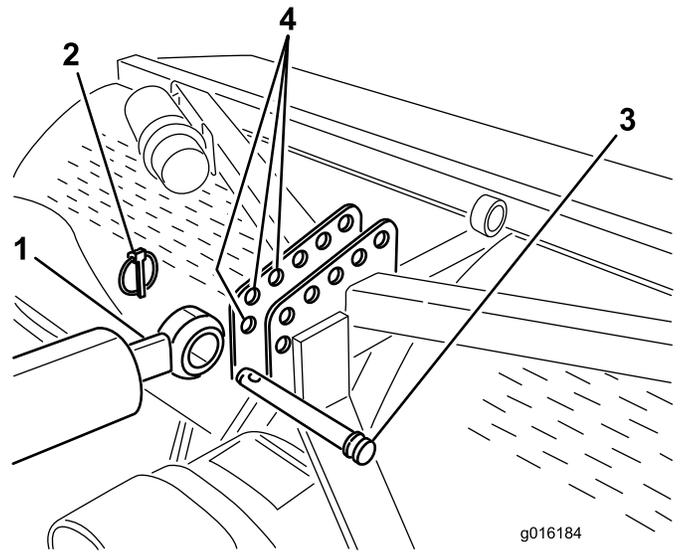
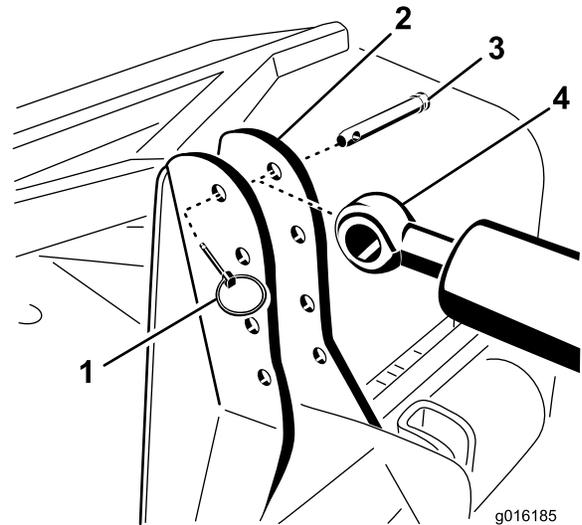
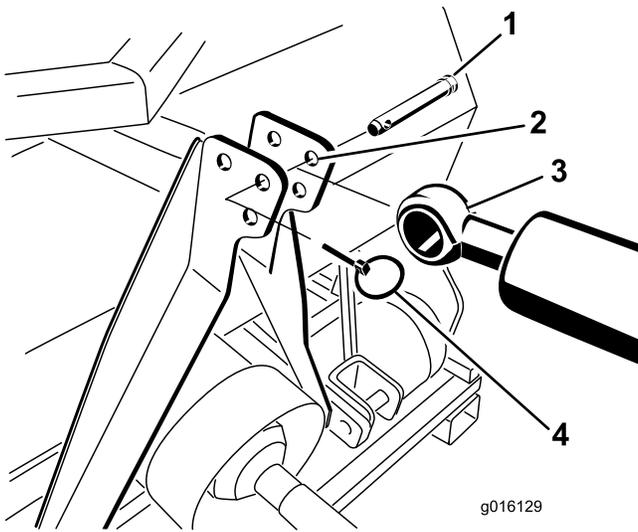

Figure 6
Figure 7
Figure 8
- Secure the rod end of hydraulic top link to the most forward hole possible in the aerator bracket with link pin and lynch pin (Figure 6, Figure 7 or Figure 8).